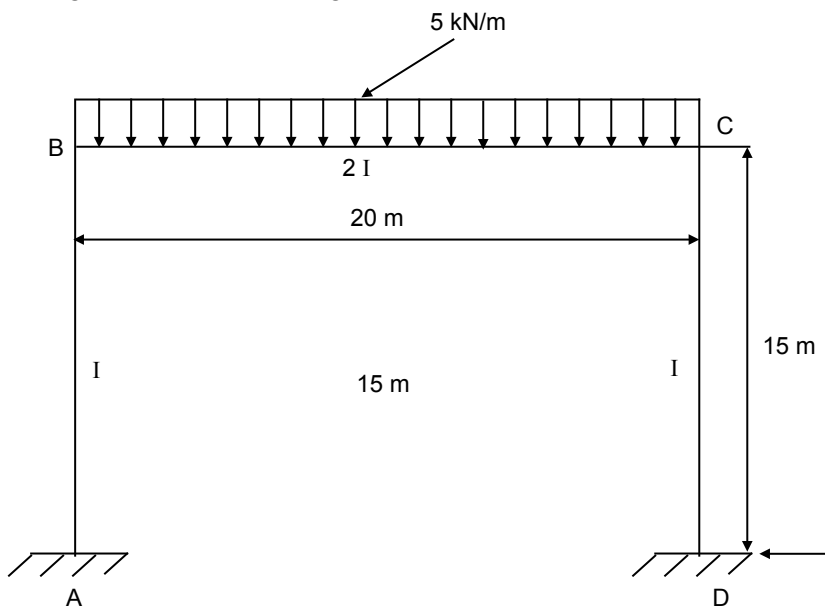

Figure 5
Q.5 A rigid frame is shown in Figure 5. The moment of inertia of all the members is the same. Calculate the support moments and draw the BM and SF diagrams and sketch the deflected structure for the given loads in the Figure.